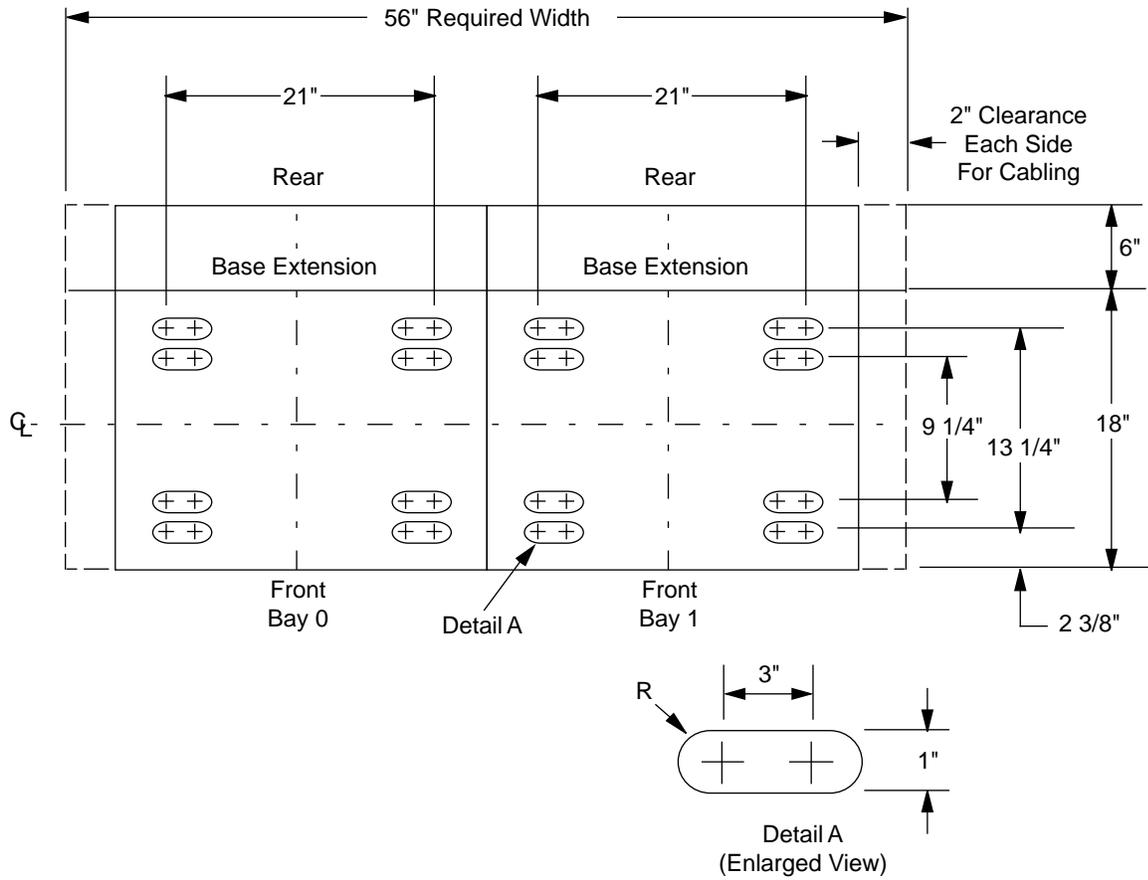
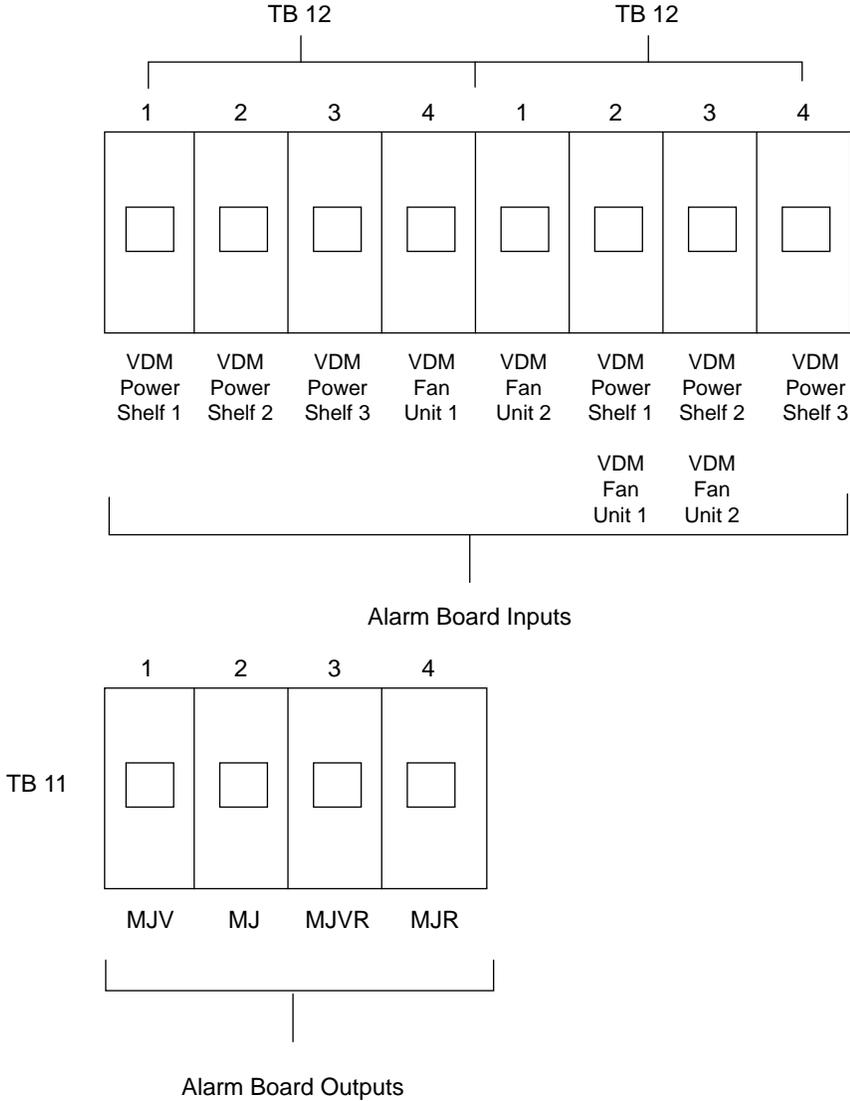

FIGURE 2-17. VDM-SAM504 Anchoring for a Two-Bay Configuration
FIGURE 2-20. TB11, TB12, and TB13 Connections
2. Connect the voice interface cables to P101 and P102 connectors on the VDM backplanes. Route the cables to the overhead rack, as illustrated in Figure 2-17.
13. Connect the CO ground (#8 AWG with ring terminal), shown in Figure 2-17, to the 12–24 screw.
3. Connect the CO ground (#8 AWG with ring terminal), shown in Figure 2-20, using the 12–24 hex head screw. Refer to Figure 2-17 for Detail A.
To dress the cables into a two-bay configuration, follow the details shown in Figure 2-20; for a one-bay configuration, see Figure 2-17. Attach the 50-pin connectors to the voice interface connectors, P101 or P102, using the two captivated screws of the connector. Then, drop the butt end of the cable at the assigned MDF location and dress the cable into the MDF. Cut off any excess cable and butt and strip the cable. Wire wrap the individual leads to the terminals of an MDF connecting block (e.g., Lucent Technologies 89 type).